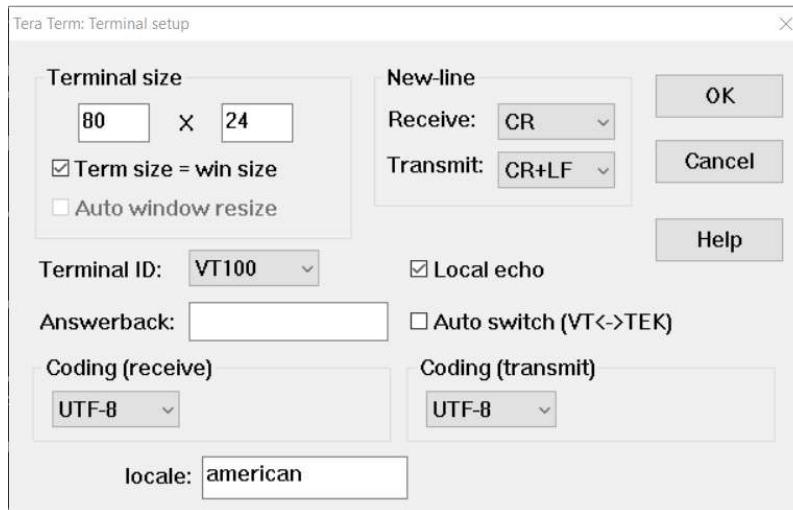

Figure 20. Terminal Settings
- The terminal settings are as follows (Figure 20):